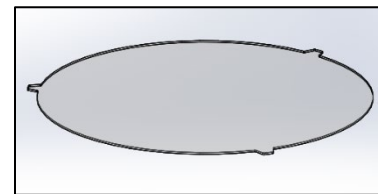

FIG. 3 DIFFUSER
2. DIFFUSER. (as shown in FIG.3)